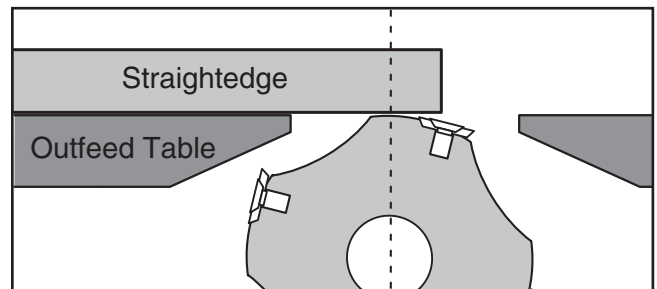

Figure 57. Adjusting outfeed table even with cutterhead body.
6. Place straightedge on outfeed table so it hangs over cutterhead, rotate motor pulley so straightedge is between inserts, then lower outfeed table until straightedge just touches cutterhead body, as shown in **Figure 57**.